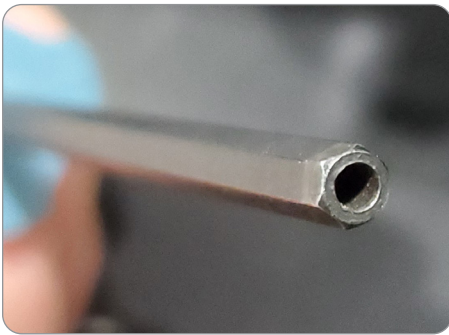

Figure 30
1. Using a specialized tamper-proof hex wrench, release the security screw holding the interconnect door shut (Figures 30 and 31).